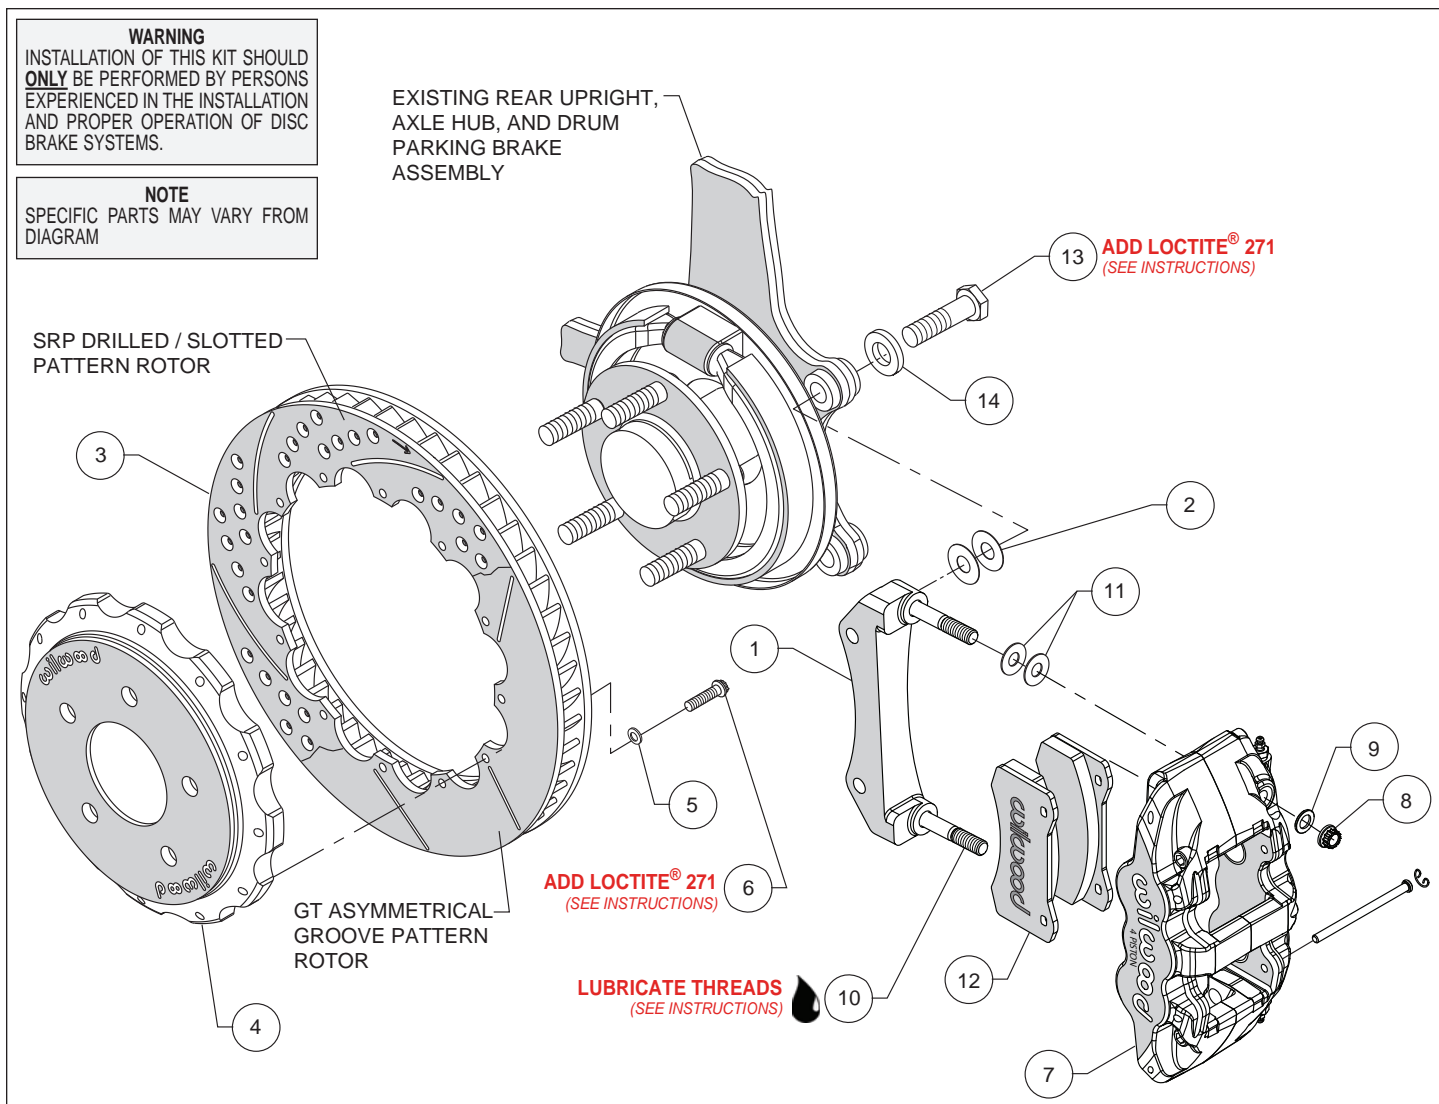
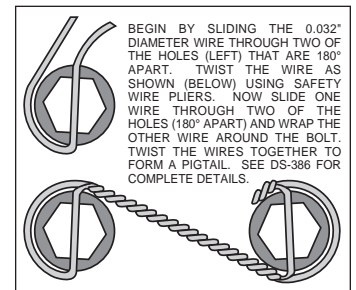

Figure 1. Typical Installation Configuration
Figure 3. Safety Wire Diagram
**Assembly Instructions** (numbers in parenthesis refer to the parts list and Figure 1 on the preceding pages):
- The caliper mount bracket assembly (1) should initially be installed with clean, dry threads on the mounting bolts. Orient the bracket, as shown in Figure 1, Photo 1, and Photo 2. Install using bolts (13) and washers (14), Figure 1. Initially place two .029" thick shims (2), on each bolt between the bracket and upright, Figure 1 and Photo 1. Temporarily tighten the mounting bolts. **NOTE:** *The bracket must fit squarely against the mount bosses on the upright.* Inspect for interference from casting irregularities, machining ridges, burrs, etc. Later, after the caliper alignment has been checked, the mount bolts will be secured using *Loctite*®.
- Orient the rotor (3) and the hat (4) as shown in Figure 1 and Photo 3. Attach rotor to hat using bolts (6) and washers (5). Using an alternating sequence, apply red *Loctite*® 271 to the threads and torque bolts to 140 **in-lb**. For an added measure of security, the bolts may be safety wired using standard 0.032 inch diameter stainless steel safety wire as shown in Figure 3. Please refer to Wilwood's data sheet DS-386 (available at [www.wilwood.com/Pdf/DataSheets/ds386.pdf](http://www.wilwood.com/Pdf/DataSheets/ds386.pdf)) for complete safety wire installation instructions.
- Lubricate the caliper mounting studs (10) with lightweight oil. Initially place two .030" thick shims (11) on each stud between the caliper and the bracket, as shown in Figure 1 and Photo 4. With the bleed screws pointing up, mount the caliper (7) onto the bracket (1) using lock nuts (8) and washers (9), Figure 1. Temporarily tighten the lock nuts and view the rotor through the top opening of the caliper. The rotor should be centered in the caliper, Photo 5. If not, adjust by adding or subtracting shims (2) between the bracket and the upright. Always use the same amount of shims on each of the two mounting bolts. Once the caliper alignment is correct, remove the bracket mounting bolts one at a time, apply red *Loctite*® 271 to the threads, and torque to 65 ft-lb.
- Remove the two pad retaining pins from the caliper (7) by carefully popping out the pin retaining clips and sliding out the pins. Insert the brake pads (12) into the caliper from the bottom, Figure 1 and Photo 6. With the friction material facing the rotor, secure the brake pads in place with the pad retaining pins and clips, Photo 7. Reinstall the caliper onto the caliper mounting bracket and temporarily tighten the lock nuts. Check that the top of the brake pad is flush with the outside diameter of the rotor, Photo 8. If not, adjust by adding or subtracting shims (11) between the caliper and the bracket. After the caliper pad height is set, torque the caliper lock nuts (8) to 47 ft-lb.